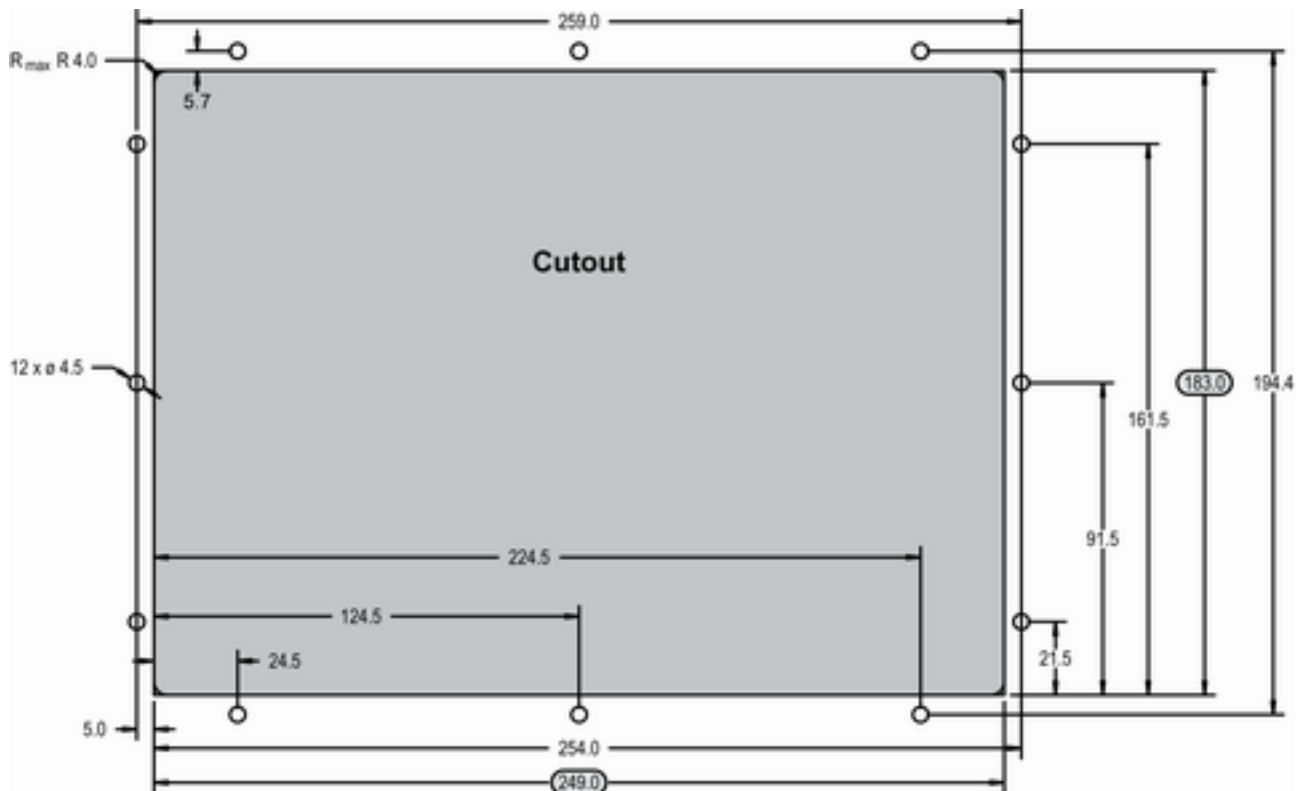

Fig. 14: Plastic housing - drill plan
The housing is equipped with 12 nut inserts (Fig. 14), which must all be tightened properly to achieve the required degree of protection.
- 1.**  Cut out the panel and drill the holes according to the dimensions in Fig. 14 (dimensions shown in mm).